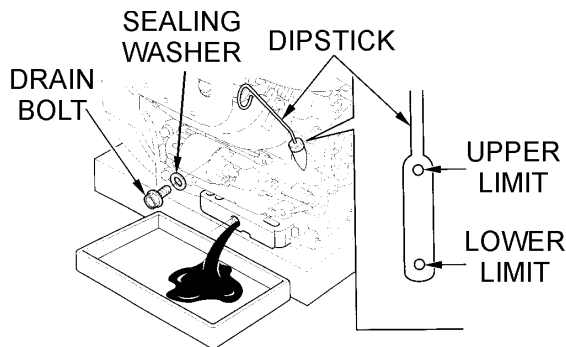

Figure 30. Draining Engine Oil
- Drain engine oil when the oil is warm as shown in Figure 30.
- Replace engine oil with recommended type oil as listed in Table 4. For engine oil capacity, see Table 2 (engine specifications). Fill to upper limit as shown in Figure 30.